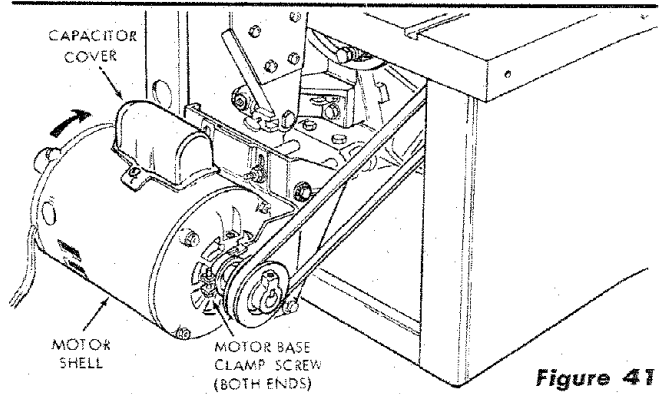

Figure 41
- h. Loosen the motor base clamp screws (both ends) and rotate the motor so that the ventilation holes in the shell of the motor are facing down and the capacitor cover is on top (See figure 41). This will help prevent sawdust from entering the motor.